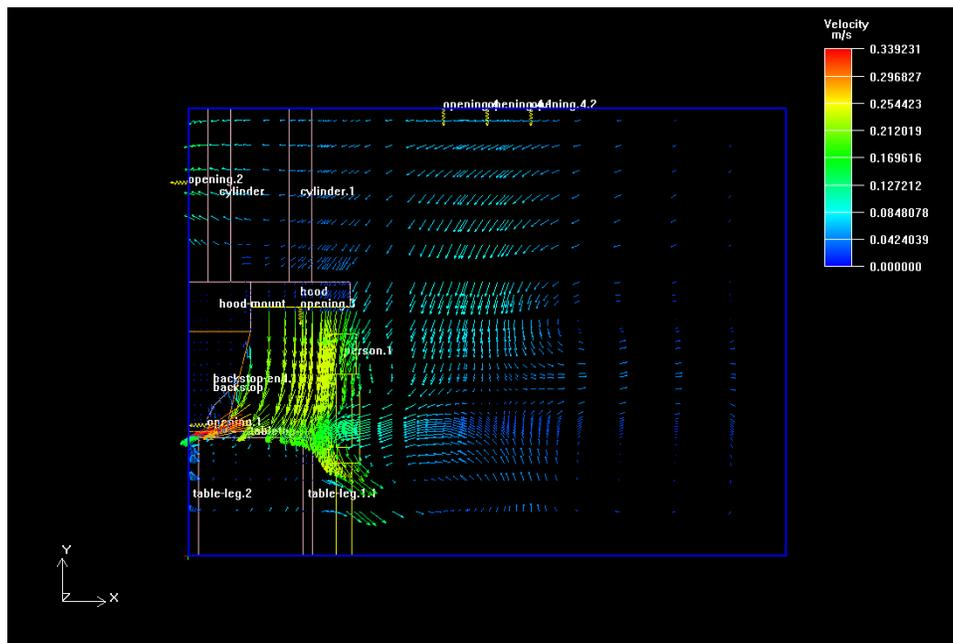

Figure 2.5: Velocity Vectors in an  $x$ - $y$  Cross-Section
*This will orient the model as shown in Figure 2.5. You can see the flow distribution of low-velocity ventilation air throughout the lab on this plane.*